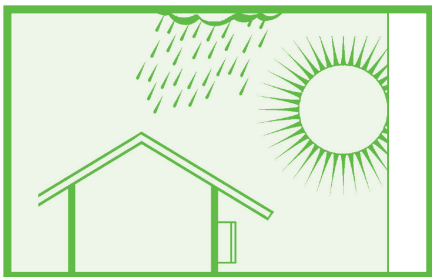

Figure 2: Installation in protected outdoor areas
- ▶ Mount the charging station at a location that is protected against rain and splash water (for example, in protected outdoor areas, Abb. 2).